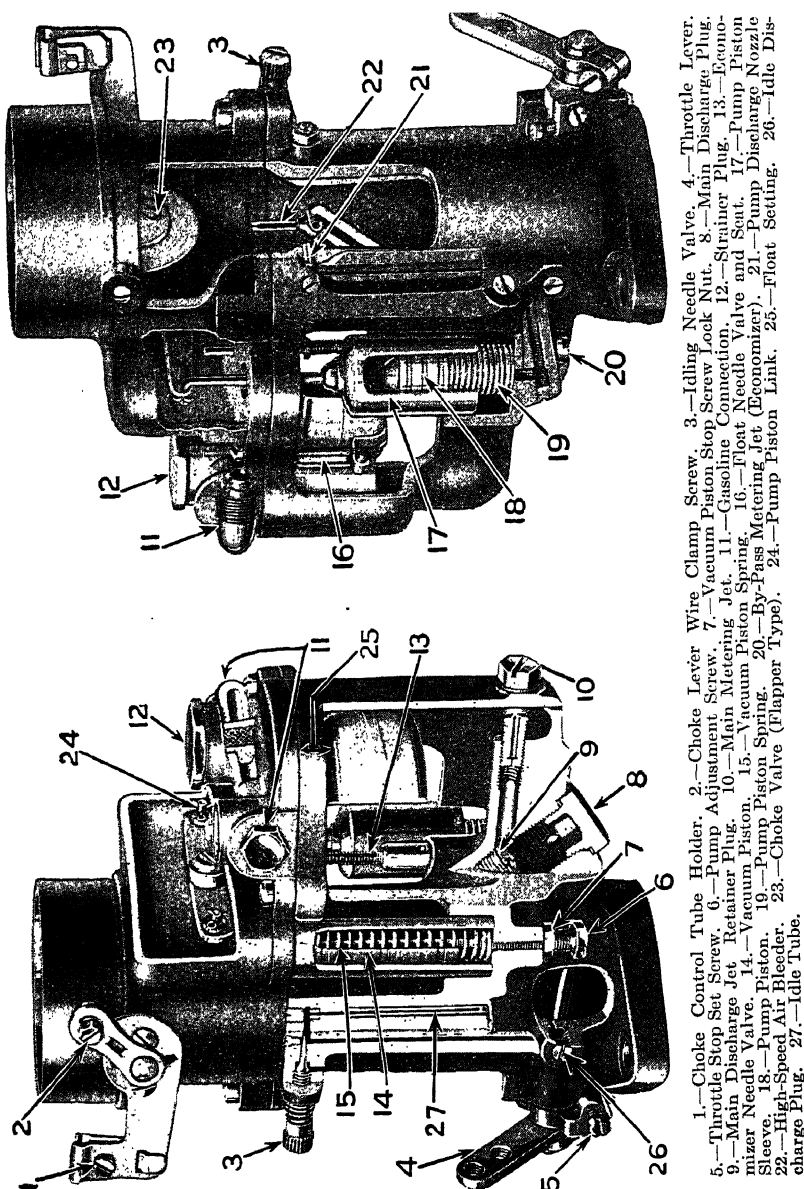

Fig. 62. Sectional Views of the Stromberg Type of Downdraft Carburetor
**Model "D."** One of the latest developments in the carburetor field is the application of the down-draft principle. The proper application of the idea secures a more complete distribution of the fuel. The Stromberg down-draft carburetors incorporate the well-known and long-used plain-tube principles. All of the theory as given herein covering the Stromberg models has application in and understanding of the operation of the Model "D," illustrated in Fig. 62. The Model "D" incorporates the following principles:
*Float-Level Adjustment.* When the engine is not running, the proper gasoline level is  $\frac{7}{8}$  inch below the top of the float bowl. The proper setting for the Model "D," shown at 25 in Fig. 62, is  $\frac{2}{8}\frac{3}{4}$  inch from the lower surface or gasket face of the cover to the top of the float at its center. Bend the float lever arm in the corner to correct the setting, bending it an amount equal to the correction desired.
*Low-Speed Adjustment.* If the carburetor adjustment has been tampered with or destroyed for any reason, the first thing to do is to have the engine well warmed up so that the intake pipe above the carburetor is approximately 120 degrees, which will be quite warm to the hand. Slow down the engine by means of the throttle lever on the steering wheel until the steady minimum idling speed is reached. Turn the low speed adjustment 3 in Fig. 62 right and
*Intermediate Speed.* The fuel mixture at intermediate speed is controlled by the size of the main metering orifice 10 in Fig. 62. The size of this orifice is stamped on the outer face of the jets in decimal parts of an inch. It is not likely that this size will need to be changed except in cases of damage, when parts should be replaced. On wide open throttle, an additional quantity of fuel is supplied by the by-pass metering jet 20.
*Accelerating-Pump Adjustment.* The pump adjustment screw 6, Fig. 62, controls the quantity of fuel which is delivered by the accelerating pump. The normal factory settings do not ordinarily need to be changed. In hot weather the accelerating pump discharge may be reduced by turning the screw up or to the right and in winter the quantity may be increased by turning the screw to the left or down. Loosen lock nut 7 before adjusting and tighten it after making the adjustment.